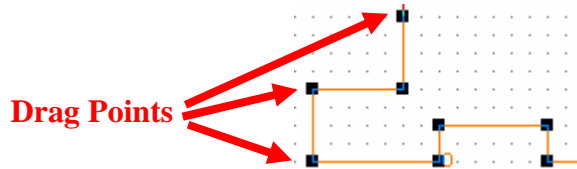

Figure 12: Drag points for connecting wire
6. Wire paths can be modified using drag points. Click on a wire. A number of drag points will appear on the wire as shown in Figure 12. Click any of these and drag to modify the shape. You can also add or remove drag points to give you even more control over the wire shape. To add or remove drag points, press CTRL and click on the location where you want the drag point added or removed.